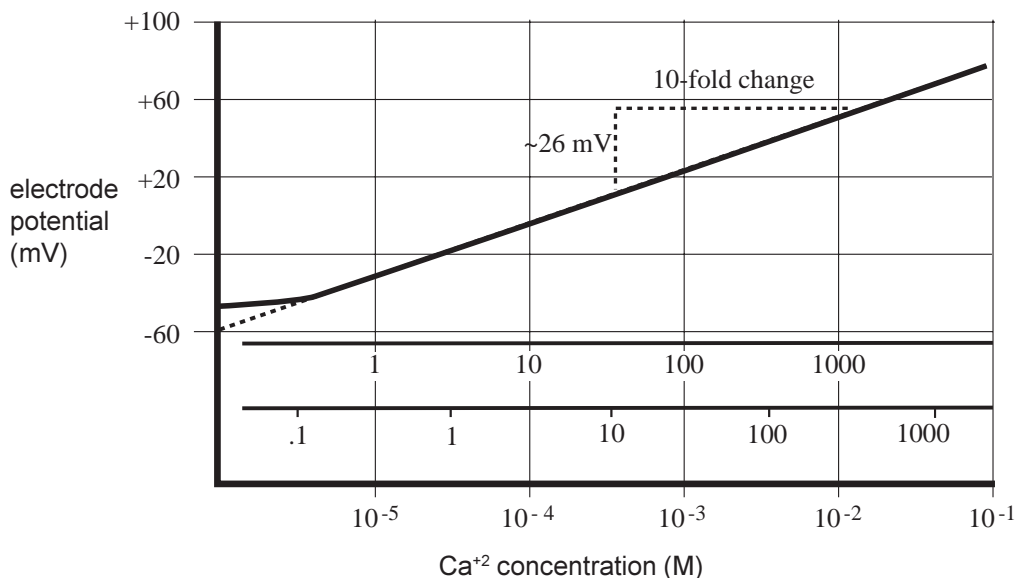

Figure 3
5. Using the semi-logarithmic graph paper, plot the voltage reading (linear axis) against the concentration (log axis). Extrapolate the calibration curve down to about 2.0 X 10⁻⁶ M. A typical calibration curve can be found in Figure 3.
Plotting the electrode potential against the calcium concentration on semi-logarithmic paper results in a straight line with a slope of about 26 mV per decade. (Refer to Figure 3)